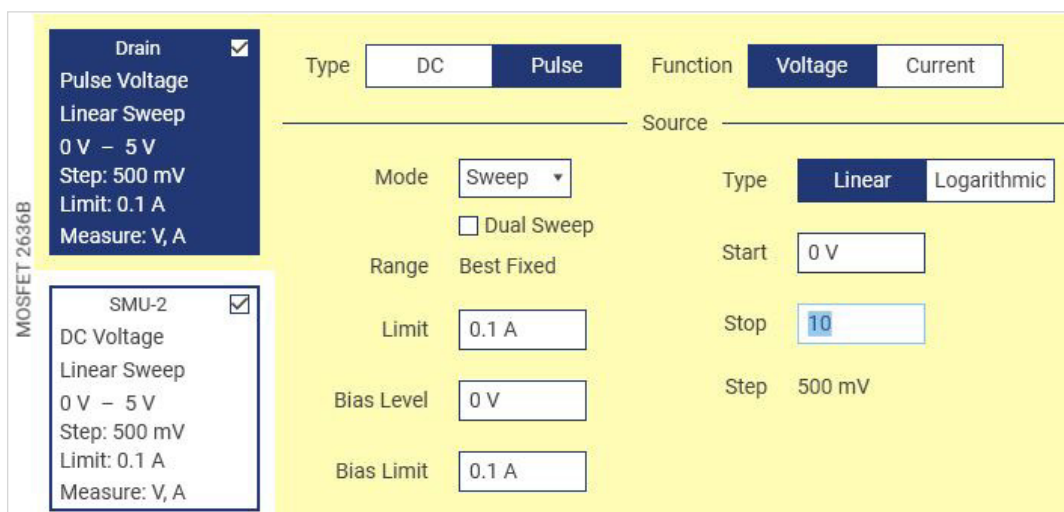

Figure 11: Apply drain source type and output settings.
5. Apply the following drain source changes (illustrated in Figure 11):